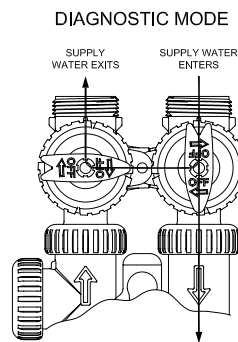

figure 3
3. Diagnostic Position: The inlet handle points in the direction of flow and the outlet handle points to the center of bypass valve, system water pressure is allowed to the control valve and the plumbing system while not allowing water to exit from the control valve to the plumbing. (see figure 3)
If using optional bypass **SLOWLY** turn bypass valve to **DIAGNOSTIC** position (See figure 3 on page 4) or slowly open inlet valve to allow water to slowly enter softener.